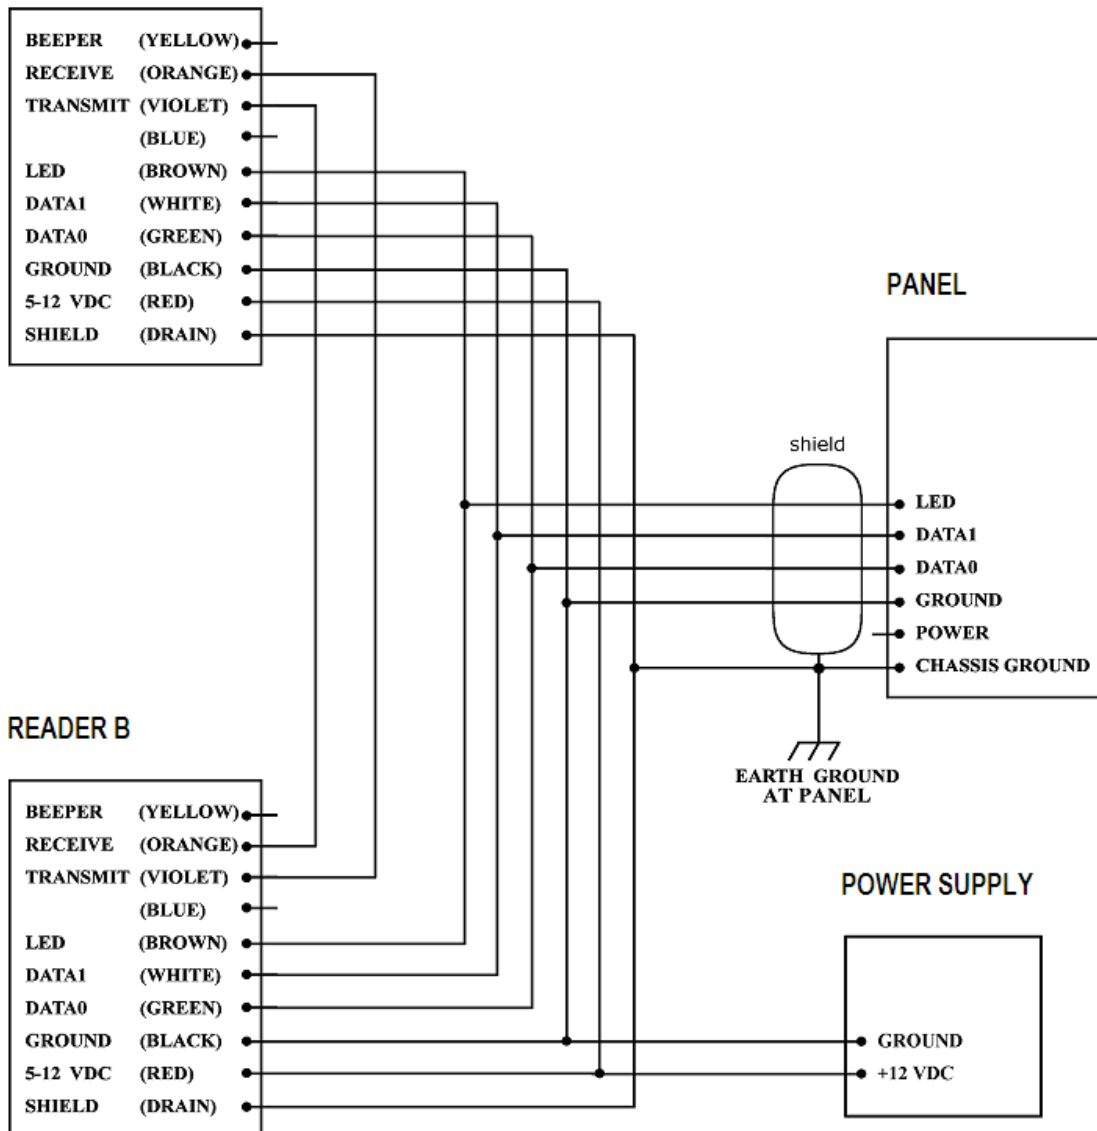

FIGURE 2: Wiring Diagram (Wiegand)
4. Connect the reader's wires for ground, data-0, data-1, LED and power, and the silver drain wire (see Fig. 2). Connect the *yellow* wire only if used for Beeper control by the panel. Connect the *orange* and *violet* wires to the opposite colors (*violet* and *orange*) on the other reader of the set. Do not connect the *blue* wire. **Tape or cap** the unused wires separately. The MR-1824HiLo set uses a single Wiegand input on the panel.
(b) Number of conductors depends upon use of optional features – LED and Beeper. See Figure 2.